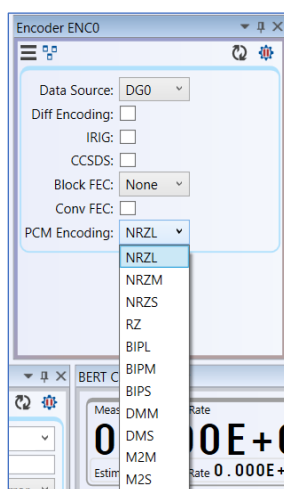

Figure 163: Encoder PCM Encoding Drop Down Menu
- **PCM Encoding** – Select the PCM Encoding value from the drop down menu, shown in Figure 163; default setting is NRZL